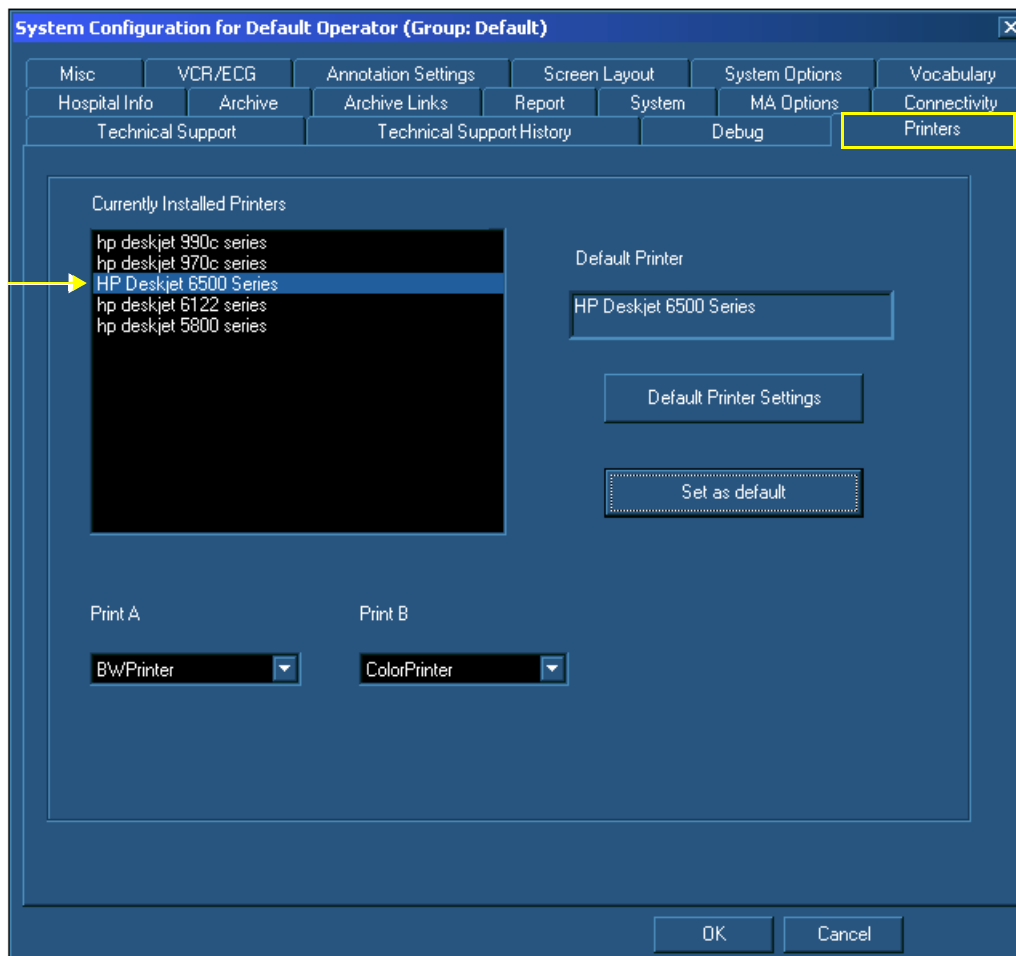

Figure 8-152 System Configuration Window - Printers Tab
28.) Press the **Config** button on control console and from the System Configuration window, activate the Printers tab - see Figure 8-152.